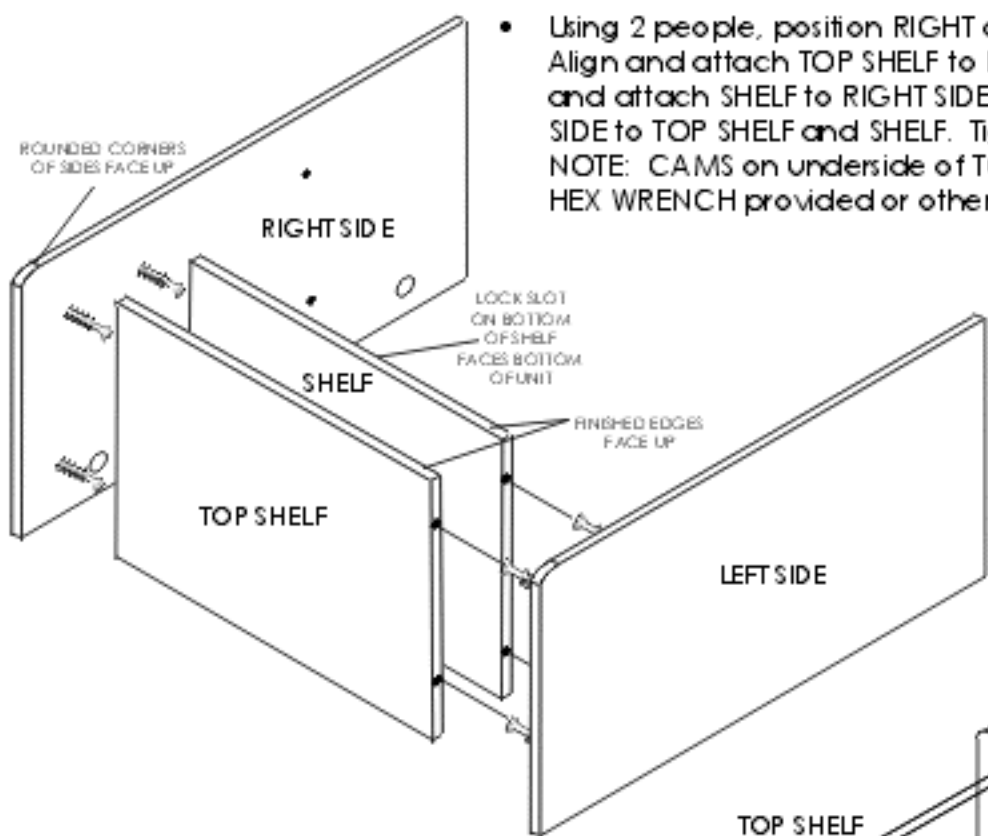

FIG. 1
- Using 2 people, position RIGHT and LEFT SIDES as shown in FIG 1. Align and attach TOP SHELF to RIGHT SIDE. Tighten CAMS. Align and attach SHELF to RIGHT SIDE. Tighten CAMS. Attach LEFT SIDE to TOP SHELF and SHELF. Tighten CAMS.